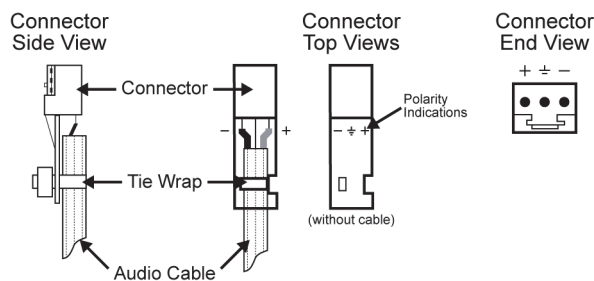

Figure 2.6 Connector Wiring for Rear Module Input Sockets
1. Insert an analog audio wire to the designated polarity slot on the connector of the rear module. (**Figure 2.6**)